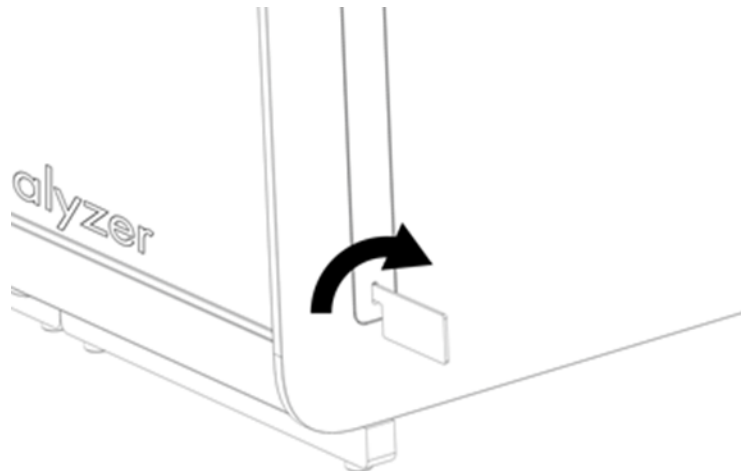

Figure 5. Removing protective covers.
2. Remove the protective covers from the side of the Analytical Module using the Protective Cover Removal Tool delivered with QlAstat-Dx Analyzer 2.0 (Figure 5).